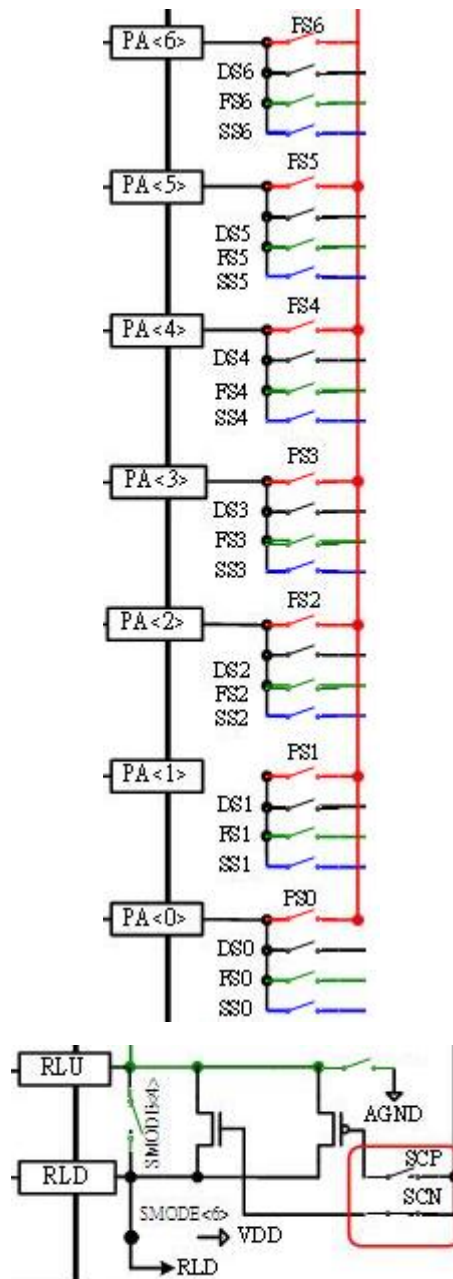

Figure 62
- (1) Click the specified network switch with mouse left key, users can select to that network
- (2) Figure 62 will show up by clicking mouse left key, and then users can select the switch network